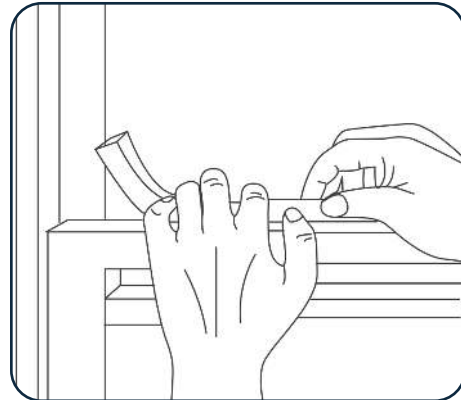

Fig.14
- For added insulation, cut the supplied insulation foam to the width of the window. Insert the foam between the window sashes to prevent air and objects from getting into the room **(See Fig.14).**